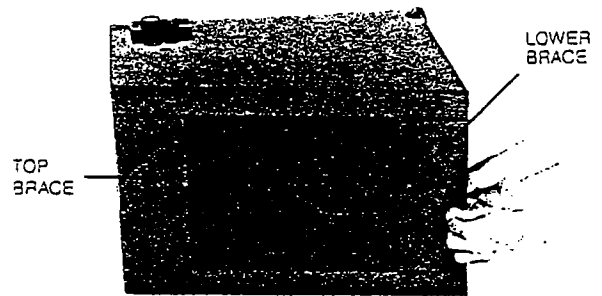

FIGURE 3
3. Set top and lower braces to the front of stand. (Figure 3).